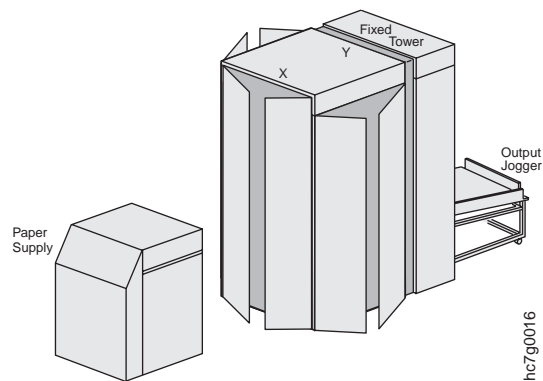

Figure 192. Right Side View of the InfoPrint Color 100
3. Move the paper supply away from the front doors located between the paper supply and the print tower, as shown in Figure 192.